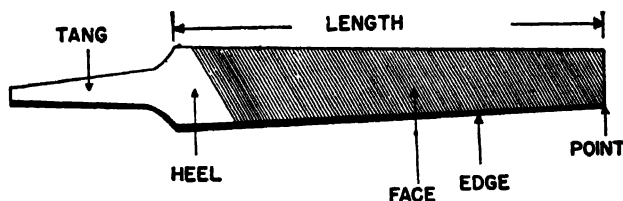

Fig. 5-8. File terminology.
**Machine-shop Files.** A file (Fig. 5-8) is a piece of high-carbon crucible steel having teeth cut upon its body by parallel rows of